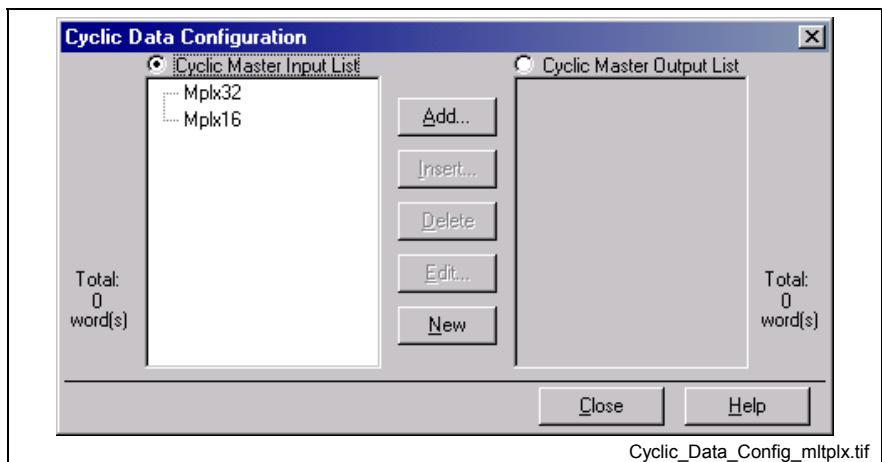

Fig. 7-167: Cyclic Data Configuration, Multiplex Containers
4. Click **OK** to add the Multiplex Container to the List. The window in Fig. 7-167 below is an example where a 16-bit Multiplex Container and a 32-Bit Multiplex Container have been added.